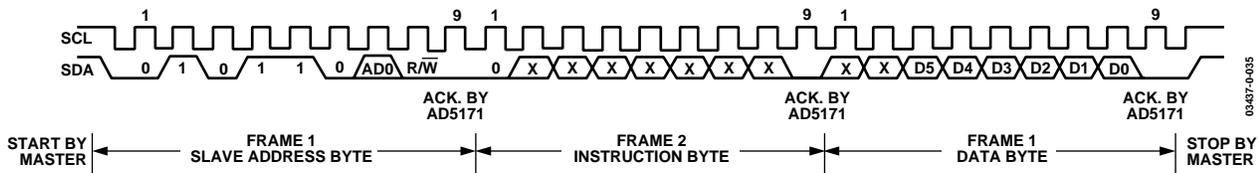
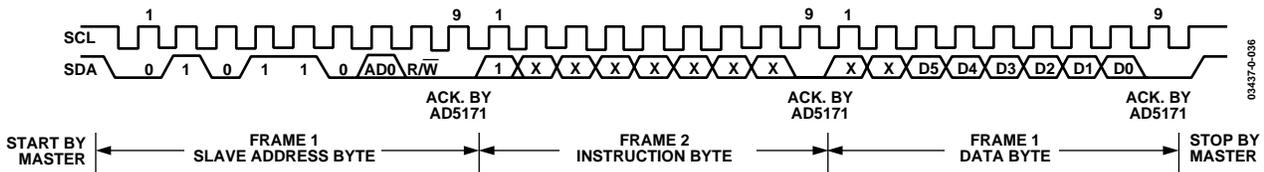
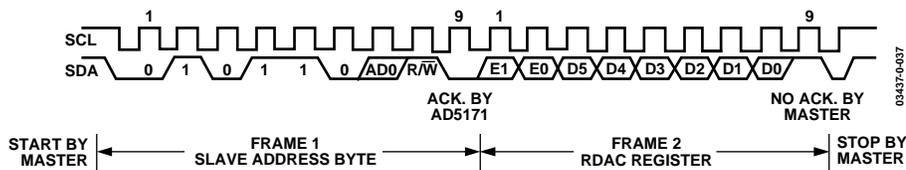
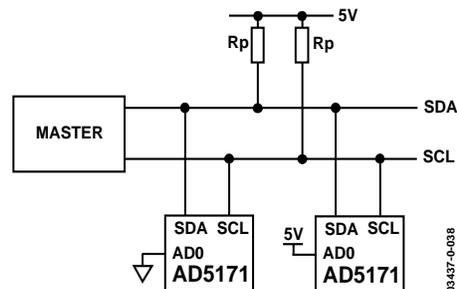

Figure 36. Writing to the RDAC Register
Figure 37. Activating One-Time Programming
Figure 38. Reading Data from RDAC Register
Figure 39. Two AD5171 Devices on One Bus
For users who prefer to use external controllers, the AD5171 can be controlled via an I2C compatible serial bus; the part is connected to this bus as a slave device. Referring to Figure 36, Figure 37, and Figure 38, the 2-wire I2C serial bus protocol operates as follows:
1. The master initiates data transfer by establishing a START condition, which is when SDA goes from high to low while SCL is high (Figure 36 and Figure 37). The following byte is the slave address byte, which consists of the 6 MSBs as a slave address defined as 010110. The next bit is AD0, which is an I2C device address bit. Depending on the states of their AD0 bits, two AD5171s can be addressed on the same bus (Figure 39). The last LSB is the R/W bit, which determines whether data is read from, or written to, the slave device.
2. The write operation contains one instruction byte more than the read operation. The instruction byte in the write mode follows the slave address byte. The MSB of the instruction byte labeled T is the one-time programming bit. After acknowledging the instruction byte, the last byte in the write mode is the data byte. Data is transmitted over the serial bus in sequences of nine clock pulses (eight data bits followed by an Acknowledge bit). The transitions on the SDA line must occur during the low period of SCL and remain stable during the high period of SCL (Figure 36).
3. In the read mode, the data byte follows immediately after the acknowledgment of the slave address byte. Data is transmitted over the serial bus in sequences of nine clock pulses (note the slight difference from the write mode; there are eight data bits followed by a No Acknowledge bit). Similarly, the transitions on the SDA line must occur during the low period of SCL and remain stable during the high period of SCL (Figure 38).
4. When all data bits have been read or written, a stop condition is established by the master. A stop condition is defined as a low-to-high transition on the SDA line while SCL is high. In the write mode, the master pulls the SDA line high during the 10th clock pulse to establish a stop condition (Figure 36 and Figure 37). In the read mode, the master issues a No Acknowledge for the 9th clock pulse, i.e., the SDA line remains high. The master then brings the SDA line low before the 10th clock pulse, which goes high to establish a STOP condition (Figure 38).
Figure 39 shows two AD5171 devices on the same serial bus. Each has a different slave address since the state of each AD0 pin is different. This allows each device to be independently operated. The master device output bus line drivers are open-drain pull-downs in a fully I2C compatible interface.